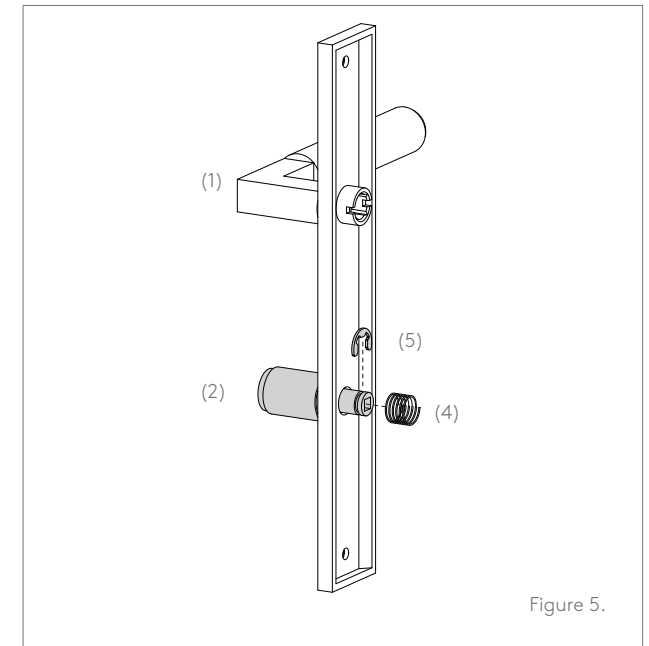

Figure 5.
- 4.1. Slide spring over snib neck and place neck through hole in internal backplate. (Figure 5.)